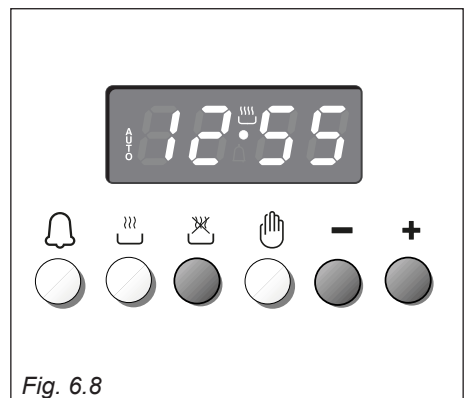

Fig. 6.8
2. Set the end of the cooking time by pushing the  button and the  button to advance, or  to go backwards if you have passed the desired time (fig. 6.8).